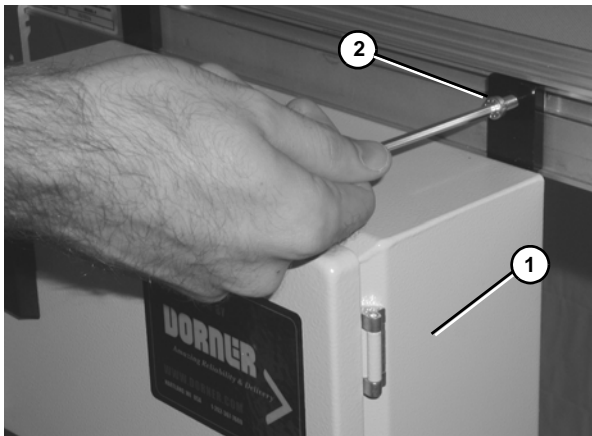

Figure 4
2. Attach controller (Figure 4, item 1) to conveyor with screws (Figure 4, item 2).